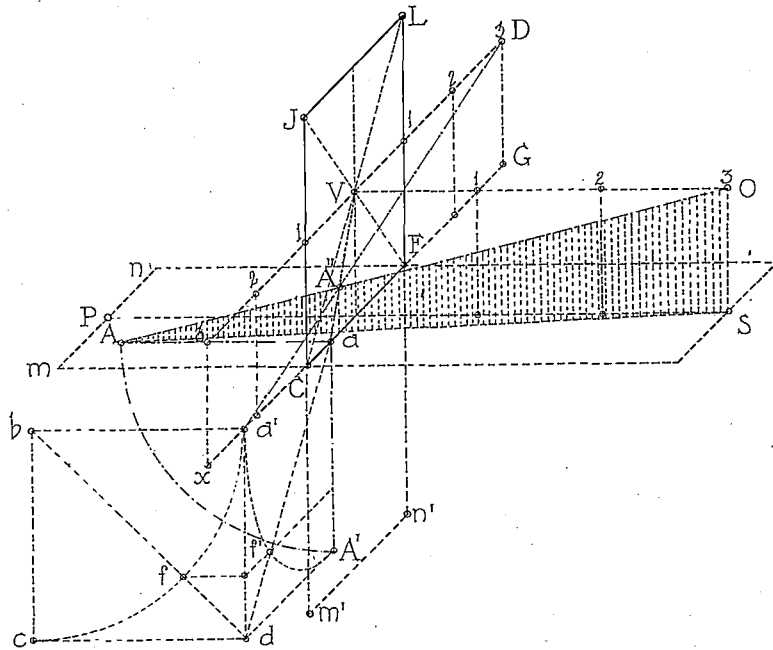

Figure 15
**I**LLUSTRATING the case when the object or point  $A$  has been arbitrarily placed in a position off of the line  $PS$ , Figure 15 is similar to Figure 13 (and corresponds to the examples shown in Figure VIII). Rotate point  $A$  from its original position in the horizontal geometric plane to its new position in the vertical geometric plane by centering in point  $a$  on the ground line with the radius  $aA$  describe a half circle  $AA'$ . Then rotate  $A'$  again (in the opposite direction from point  $D$ ) to point  $a'$  on the ground line by constructing a perfect square  $a'bcd$  at point  $a'$ .  $a'b = aA$ . Draw diagonal  $bd$  and centering in point  $b$  with radius  $ba'$  describe a quarter circle  $a'c$ . Unite  $a'dAa$  forming a square in parallel perspective corresponding exactly to the geometric square  $a'bcd$ . From the intersection  $f$  raise a perpendicular to line  $a'd$ , thence a line at 45 degrees to line  $aA'$  and at the intersection of this line and diagonal  $ad$  find point  $f'$  which corresponds to point  $f$  in the geometric square. Starting at point  $a'$  and passing through point  $f'$  to  $A'$  we will have described a quarter circle  $a'f'A'$  in parallel perspective corresponding exactly to the quarter circle  $a'fc$  in the geometric square. Having established point  $D$  as in Figure 13, we have reduced all our points to one plane, the plane containing our picture. Proceeding as before, first raising a perpendicular from the object  $A'$  to the ground line  $CF$  to point  $a$ , thence from the foot of this perpendicular conduct line  $aV$ . Second, conduct line  $a'd$  and at the intersection  $A''$  we will find as before the perspective of  $A'$  or point  $A$  originally located in the horizontal geometric plane.